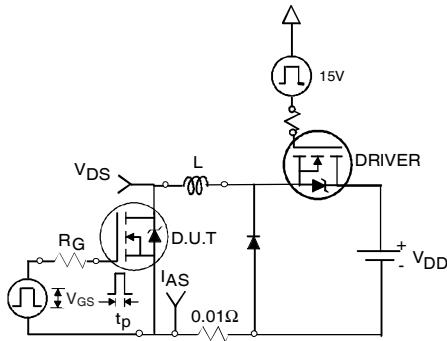

Fig 12a. Unclamped Inductive Test Circuit
- ③ $I_{SD} \leq 75A$, $di/dt \leq 340A/\mu s$, $V_{DD} \leq V_{(BR)DSS}$, $T_J \leq 175^\circ\text{C}$.
- ④ Pulse width $\leq 1.0ms$; duty cycle $\leq 2\%$.
- ⑤ $C_{oss\ eff.}$ is a fixed capacitance that gives the same charging time as C_{oss} while V_{DS} is rising from 0 to $80\% V_{DSS}$.
- ⑥ Limited by T_{Jmax} , see Fig.12a, 12b, 15, 16 for typical repetitive avalanche performance.
- ⑦ This value determined from sample failure population. 100% tested to this value in production.
- ⑧ This is applied to D²Pak, when mounted on 1" square PCB (FR-4 or G-10 Material). For recommended footprint and soldering techniques refer to application note #AN-994.
- ⑨ R_θ is measured at T_J of approximately 90°C .
- ⑩ TO-220 device will have an R_{th} of 0.45°C/W .
3. Equation below based on circuit and waveforms shown in Figures 12a, 12b.